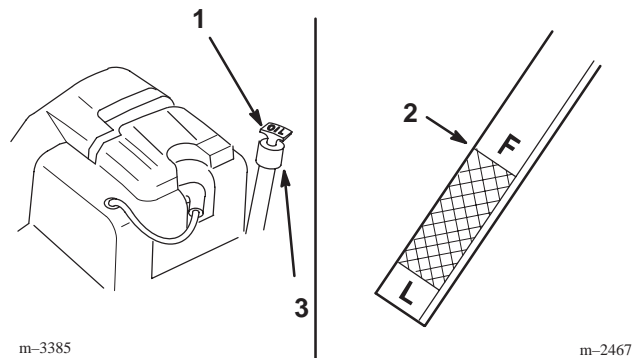

Figure 24
3. Clean around the oil dipstick (Fig. 24) so dirt cannot fall into the filler hole and damage the engine.
4. Pull the oil dipstick out and wipe the metal end clean (Fig. 24).
5. Push the oil dipstick fully into the filler tube (Fig. 24). Pull the dipstick out and look at the metal end. If oil level is low, slowly pour only enough oil into the filler tube to raise the level to the full mark.
6. Slowly pour approximately 80% of the specified amount of oil into the filler tube (Fig. 24). Now check the oil level; refer to Checking Oil Level, page 24. Slowly add additional oil to bring to the full mark on dipstick.